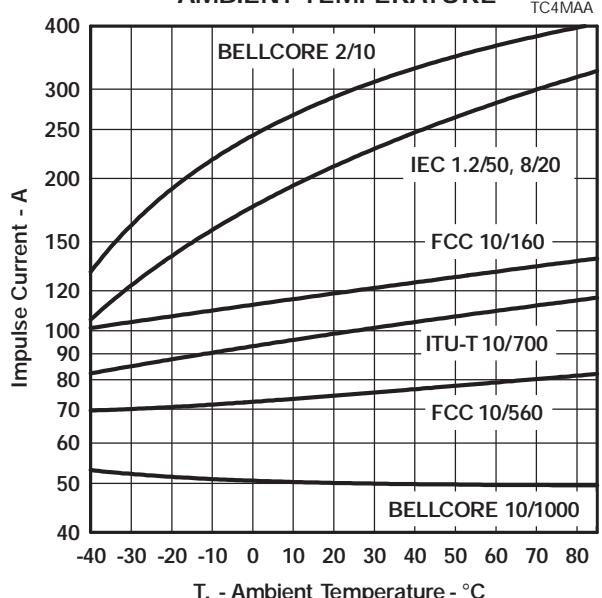

Figure 11.
4. See Applications Information and Figure 11 for current ratings at other temperatures.
For the FCC Part 68 10/560 waveform, the following values result. The minimum total circuit impedance is $800/75 = 10.7 \Omega$ and the generator's fictive impedance is $800/100 = 8 \Omega$. This gives a minimum series resistance value of $10.7 - 8 = 2.7 \Omega$. After allowing for tolerance, a $3 \Omega \pm 10\%$ resistor would be suitable. The 10/160 waveform needs a standard resistor value of 5.6Ω per conductor. These would be R1a and R1b in Figure 15 and Figure 16. FCC Part 68 allows the equipment to be non-operational after the 10/160 (conductor to ground) and 10/560 (inter-conductor) impulses. The series resistor value may be reduced to zero to pass FCC Part 68 in a non-operational mode, e.g. Figure 14. For this type of design, the series fuse must open before the TISP4xxxM3 fails. For Figure 14, the maximum fuse i^2t is $2.3 \text{ A}^2\text{s}$. In some cases, the equipment will require verification over a temperature range. By using the rated waveform values from Figure 11, the appropriate series resistor value can be calculated for ambient temperatures in the range of -40°C to 85°C .